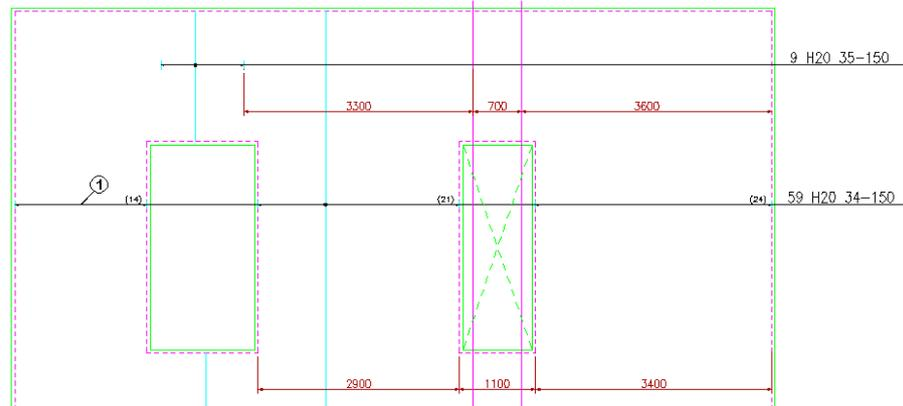

Figure 7.3.10:5 Additional Group added to Single Fixed Pitch Range
- ▶ Select RebarCAD → Editing → Edit Range or  or double click on the Range Line as shown by point 2 in figure 7.3.10:6 below